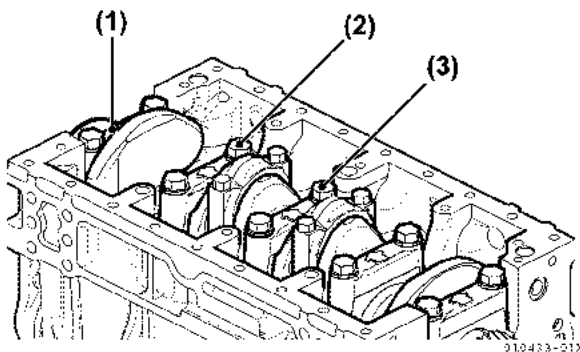

**Figure 5-52**
48. Turn the engine over, with the cylinder head mounting surface facing down (Figure 5-52).